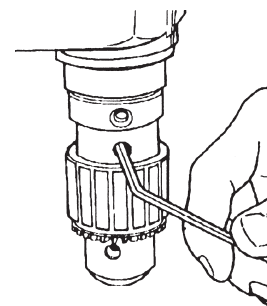

Figure 17
- To install the Drill Chuck, mount the Chuck on the Spindle and align the Chuck's Set Screw with the Spindle Knob's Set Screw, as shown in Figure 17. This allows the Chuck's Set Screw to set on the flat part of the Spindle. Use a 5/32" Allen Wrench to securely tighten the Drill Chuck's Set Screw.